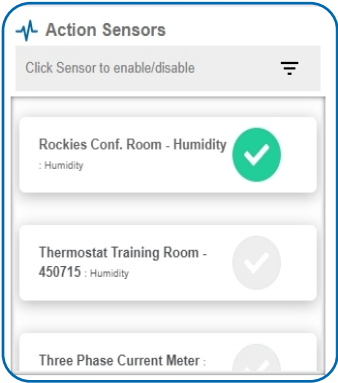

Figure 23
- By default, the sensor(s) will not be assigned to the action conditions you've just set. To assign a sensor, find the device(s) you want to designate for this action and select. Selected sensor boxes will turn green when activated. Choose the sensor box again to unassign the sensor from the action. See Figure 23.